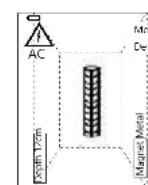

Figure 3
- When metal substances and AC electrical signals are detected at the same time (as Figure 3). The instrument will emit a rapid "drip drip..." sound.